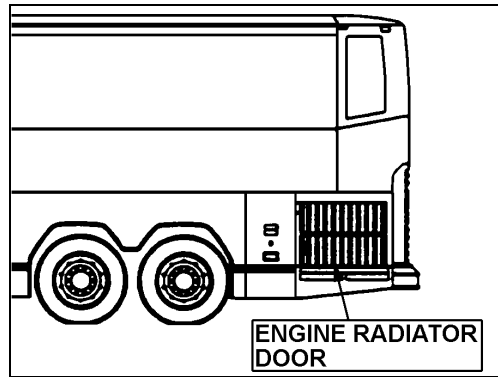

FIGURE 1 : ENGINE RADIATOR DOOR
1. Go under engine radiator door and insert the warm air baffle between the muffler and chassis. Lean the angular bracket against the interior edge, slide baffle towards front of vehicle to the maximum then go backwards 3/8 inch (9 mm) (refer to figures 1 and 2).